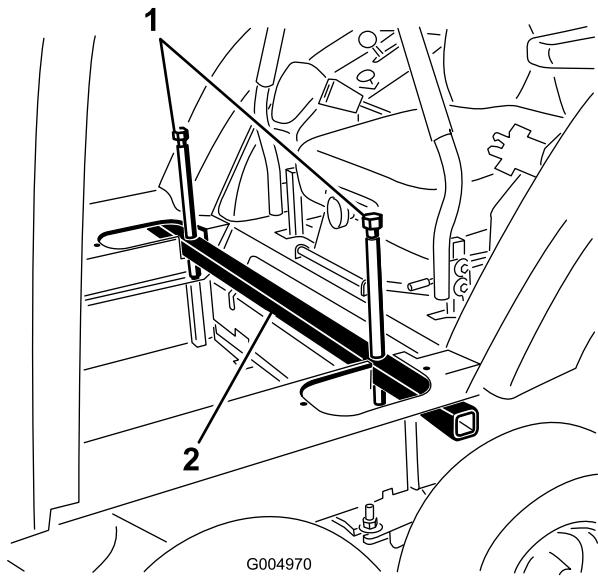

Figure 27
13. Loosen the jacking bolts and remove the cab jack tube from the cutouts in the cab floor (Figure 27).